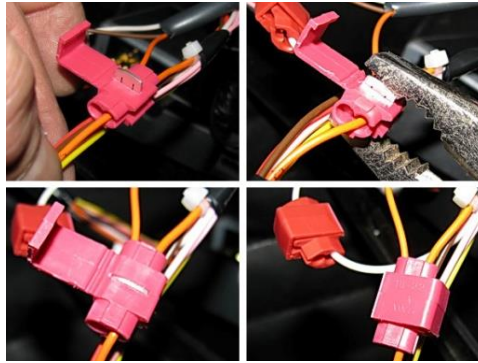

Figure 27 — Using connectors to connect wires of signal cable
- 4) **Quick splice connectors** (ordered separately) are recommended for electrical connection of signal cable wires (see figure 27).